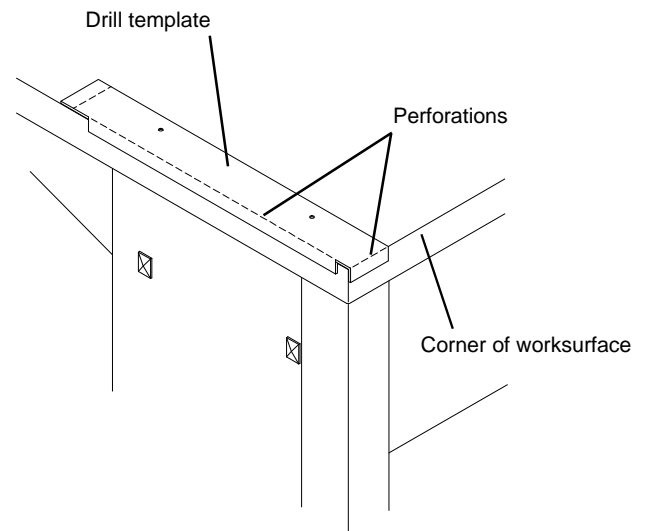

Figure 2
1. Using the cardboard **Drill Template** provided, drill two 1/8" diameter holes approximately 1/2" deep into the two corners of the Linx Worksurface as shown in **Figure 2**.
Carefully fold the template along perforations and place the template on the corner of the worksurface as shown in **Figure 2**.